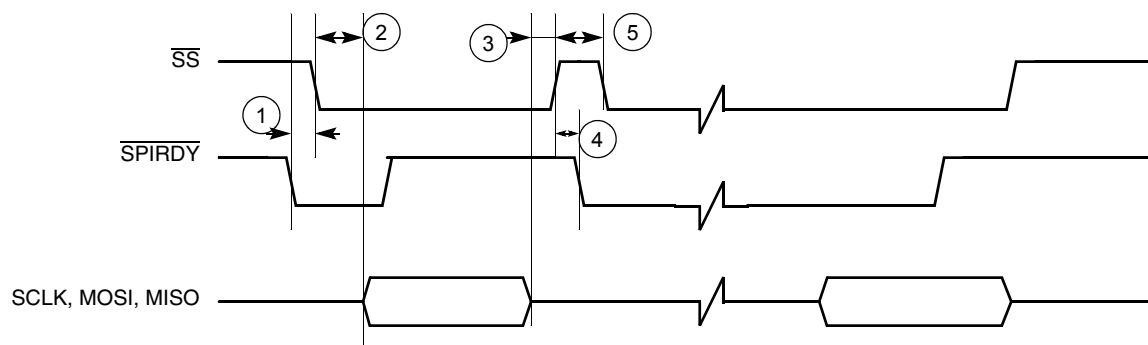

Figure 38. Master SPI Timing Diagram Using $\overline{SPI_RDY}$ Edge Trigger
To use the internal transmit (TX) and receive (RX) data FIFOs when the SPI module is configured as a master, two control signals are used for data transfer rate control: the \overline{SS} signal (output) and the $\overline{SPI_RDY}$ signal (input). The SPI1 Sample Period Control Register (PERIODREG1) can also be programmed to a fixed data transfer rate. When the SPI module is configured as a slave, the user can configure the SPI1 Control Register (CONTROLREG1) to match the external SPI master's timing. In this configuration, \overline{SS} becomes an input signal, and is used to latch data into or load data out to the internal data shift registers, as well as to increment the data FIFO. Figure 38 through Figure 42 show the timing relationship of the master SPI using different triggering mechanisms.
Table 22. Timing Parameter Table for Figure 38 through Figure 42